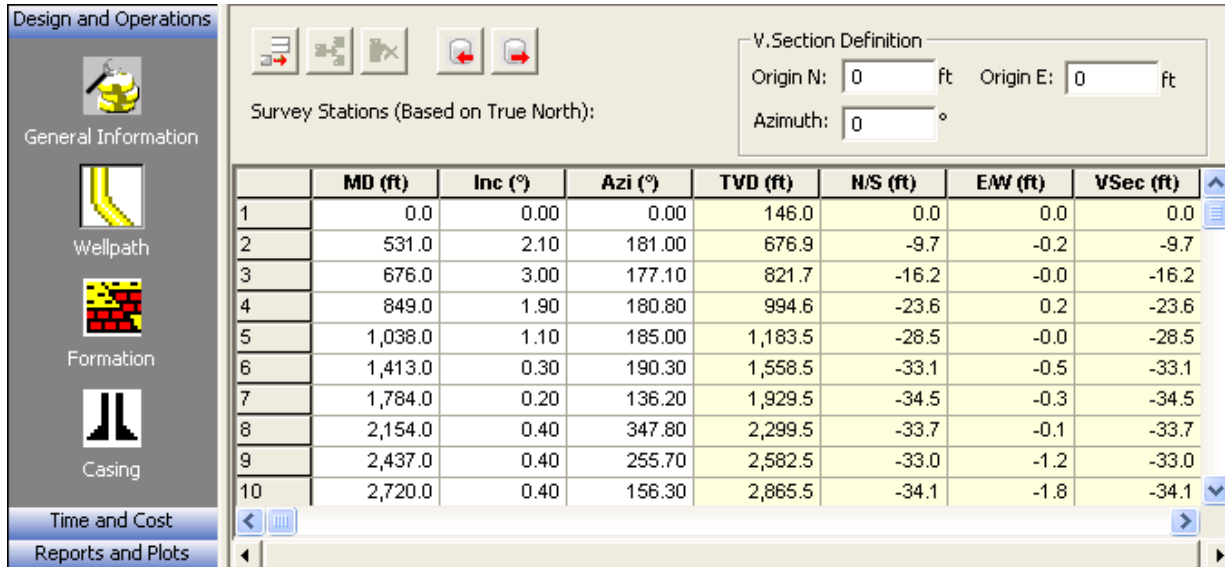

Figure 3: Wellpath Editor
Wellpath provides various trajectory display options based on Measured Depth (MD), Inclination (INC), Azimuth (AZI), East/West/North/South coordinates, and the horizontal projected distance of the Wellbore on a drawing plane (V.Section). Figure 3 shows one example, the Wellpath editor displayed in Well Cost. In all editor spreadsheets, white cells are editable, and yellow shaded cells are calculated by Well Cost and read-only.